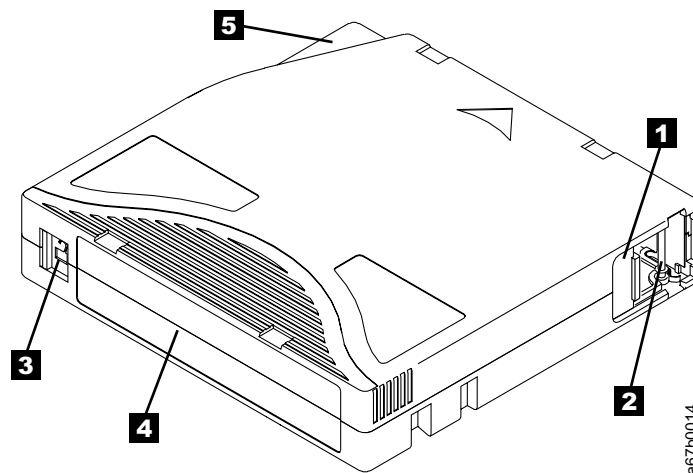

Figure 35. The IBM LTO Ultrium Data Cartridge
Figure 35 shows the IBM LTO Ultrium Data Cartridge and its components.
The cartridge door (**1** in Figure 35 on page 161) protects the tape from contamination when the cartridge is out of the drive. Behind the door, the tape is attached to a leader pin **2**. When you insert the cartridge into the drive, a threading mechanism pulls the pin (and tape) out of the cartridge, across the drive head, and onto a non-removable takeup reel. The head can then read or write data from or to the tape.
When attaching a bar code label to a tape cartridge, place the label only in the recessed label area (see **4** in Figure 35 on page 161). A label that extends outside of the recessed area can cause loading problems in the drive or the library.
- Position the label within the recessed label area (see **4** in Figure 35 on page 161).